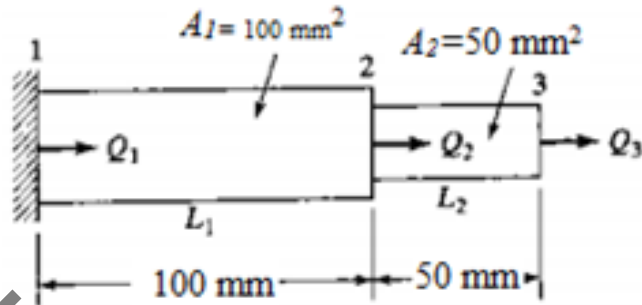

Figure 3
8. Determine the Eigen values and Eigen vectors for the stepped bar shown in the figure 3. Given $E = 100 \text{ GPa}$ and Specific weight $= 0.025 \text{ kg/mm}^3$. [15]